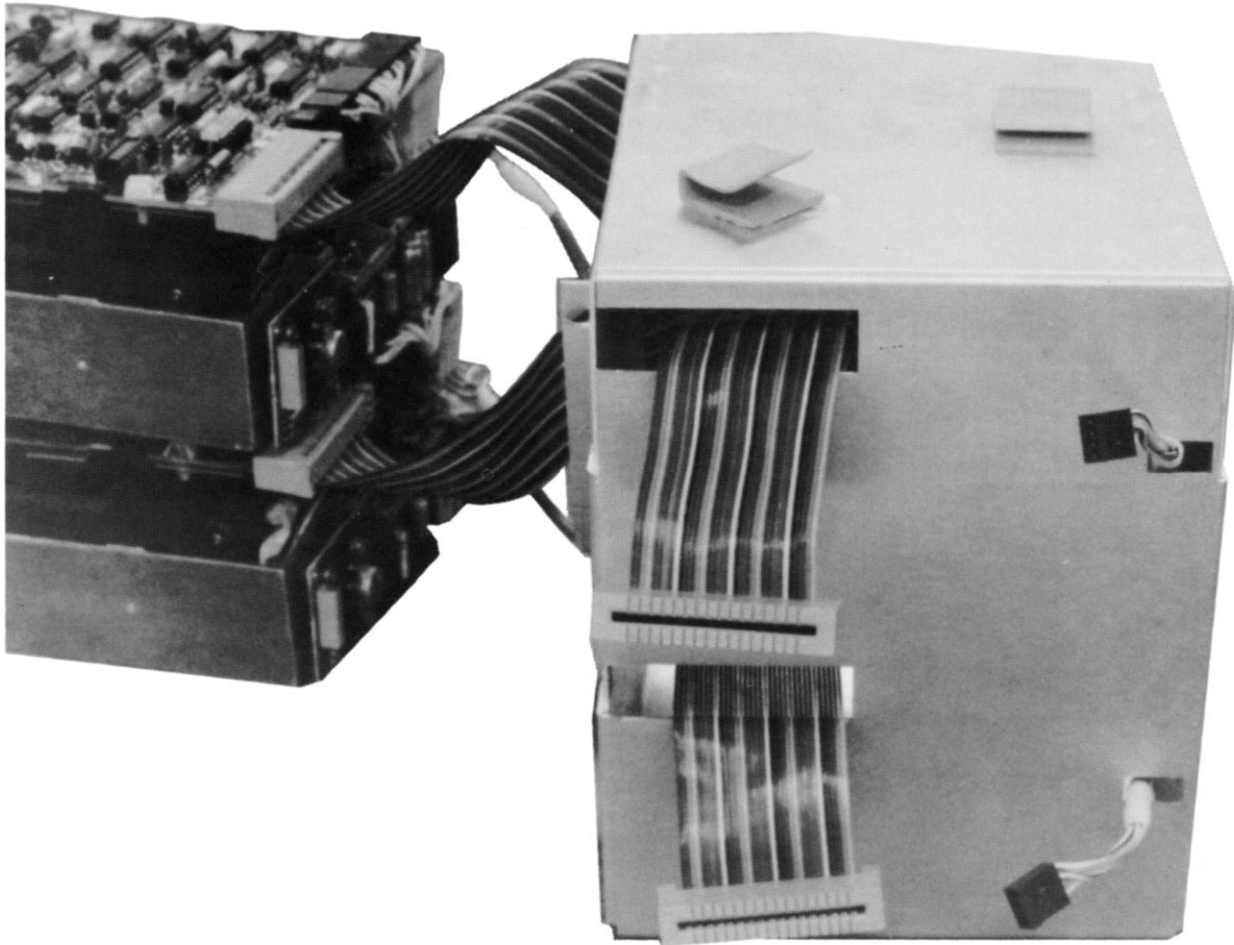

Figure 2-3. Mini Drive Cable Installation
- a. Place Mini Drive(s) cables into and through shield box as shown in figure 2-3. Make sure cables are not bent or twisted.